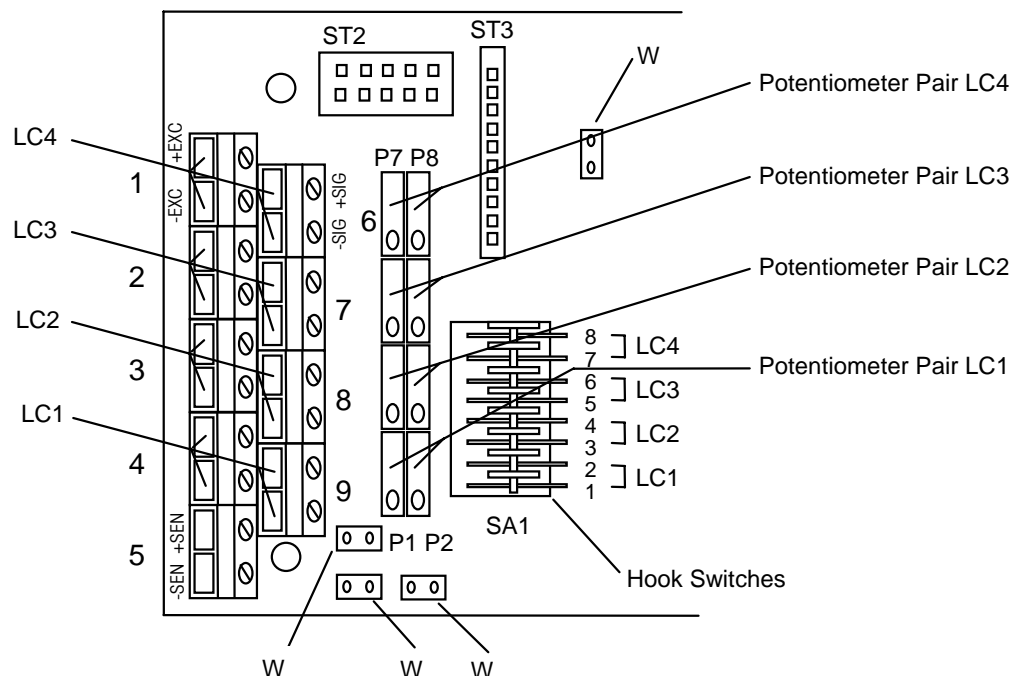

Figure 4-1: IDNet Potentiometer Adjustment
2. Activate the trim potentiometers by opening the eight hook switches (if not already open) located on the PCB (Figure 4-1). Once activated, the switches remain open. Do not close the latches, even after completing the shift adjustment.